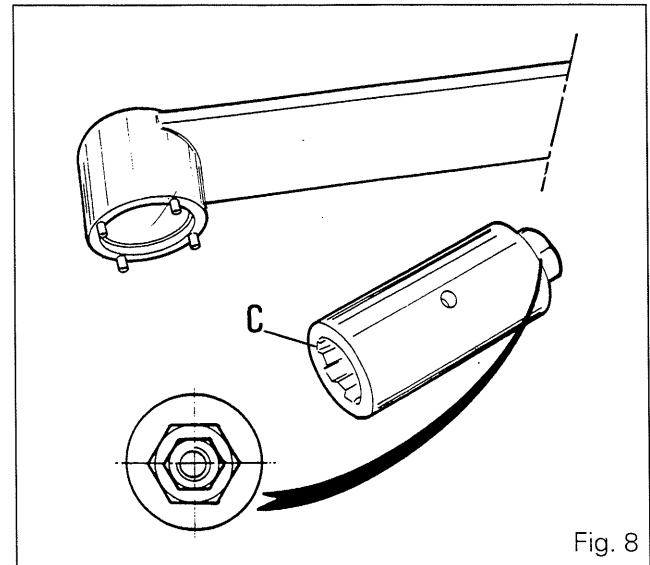
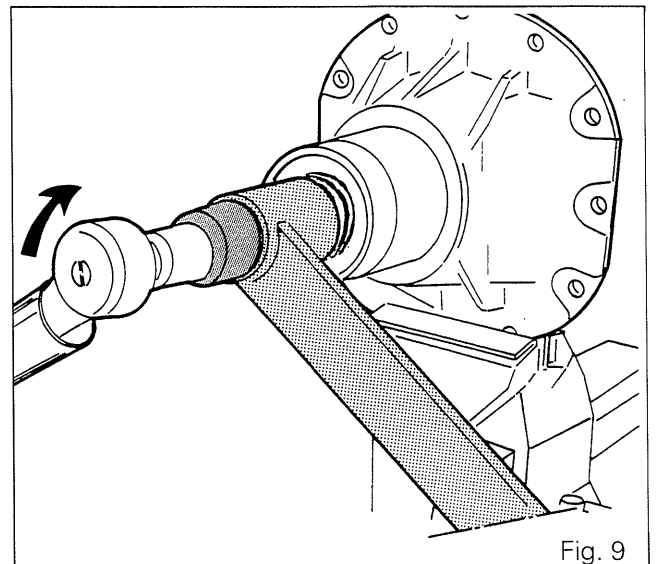

Fig. 8
Fig. 9
31. Unlock the nut (1) and untighten it with the special spanner 3376881 M1 (Figures 8 and 9). Unscrew the bevel drive pinion in the clockwise direction (Fig. 9) using the special locally-manufactured «C» sleeve (Fig. 8) (See 5M).
32. Remove the bevel drive pinion assembly, the bearing cone (10), the spacer (45), the shim (2) and the O-ring (40) from the housing.
33. Detach O-ring (40), shim (2) and spacer (45) from the bevel drive pinion.
34. Extract the bearing cone (10) from the bevel drive pinion.
35. Extract the cup (9) and remove the shims (8).
36. Remove the spacer (3), drive out the cup (6) with its cone (5) and then extract the seal (4).